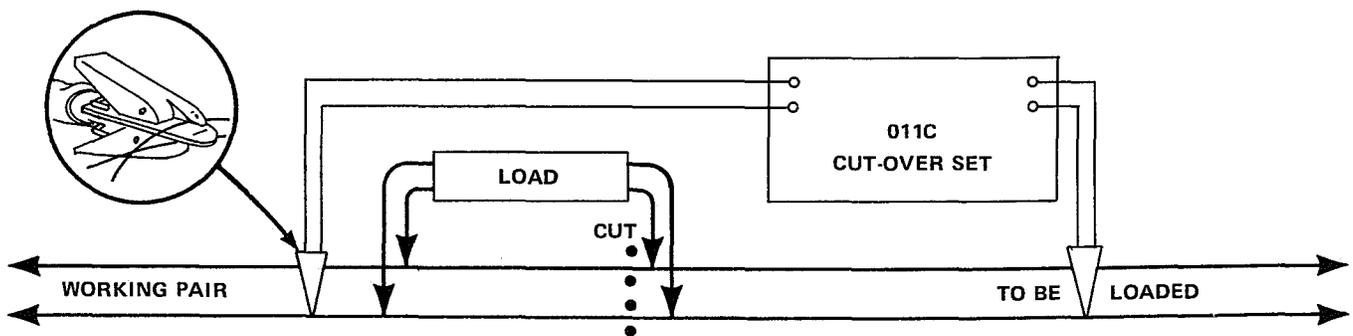

Fig. 5
1. With the VOLTS knob at OFF and the toggle switch on TEST, connect the Cut-Over Set to the cable pair. One of the cords supplied with the set should be connected to the right of the load, and the other cord connected to the left of the load. (See Fig. 5.)